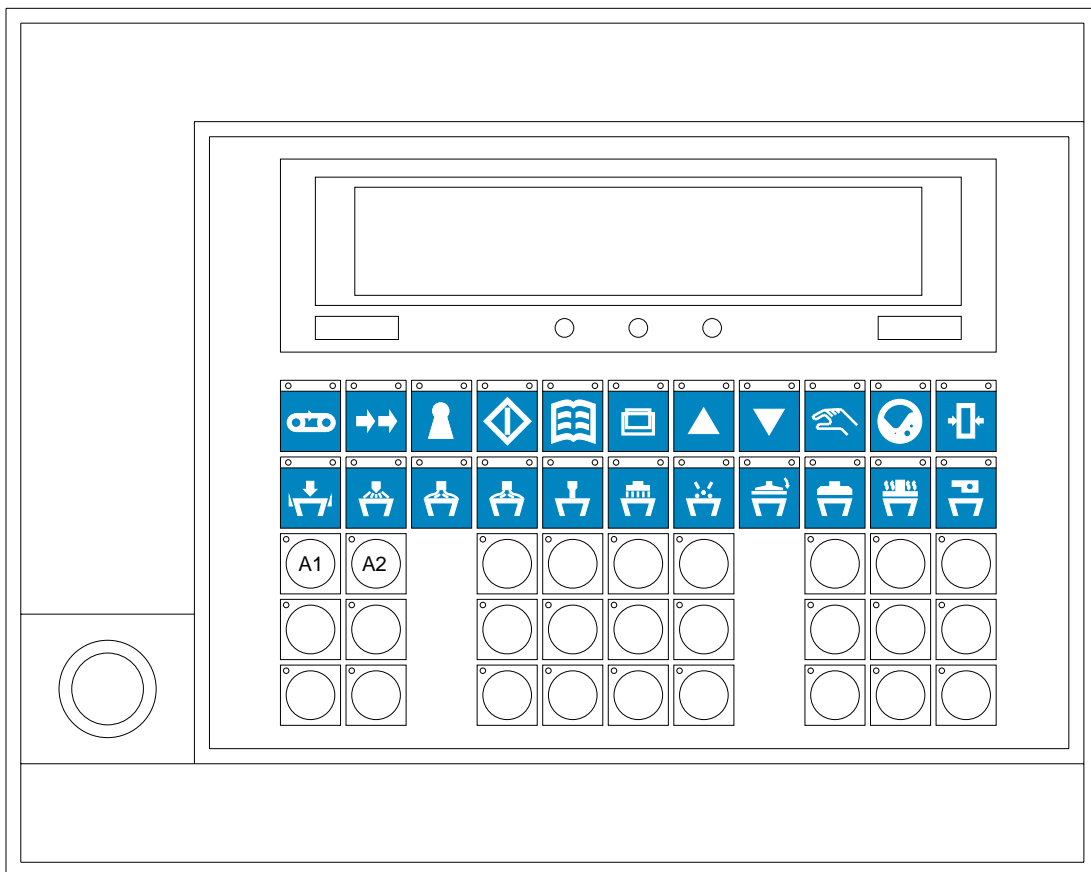
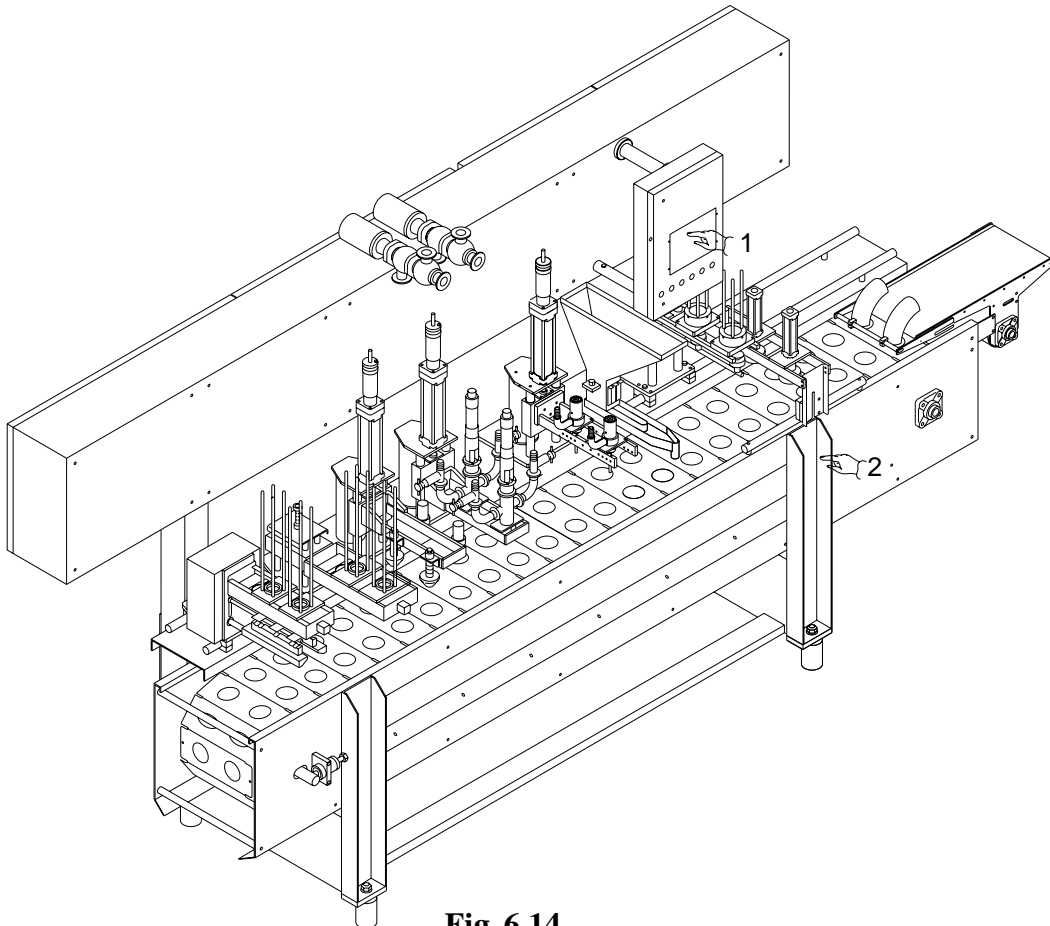
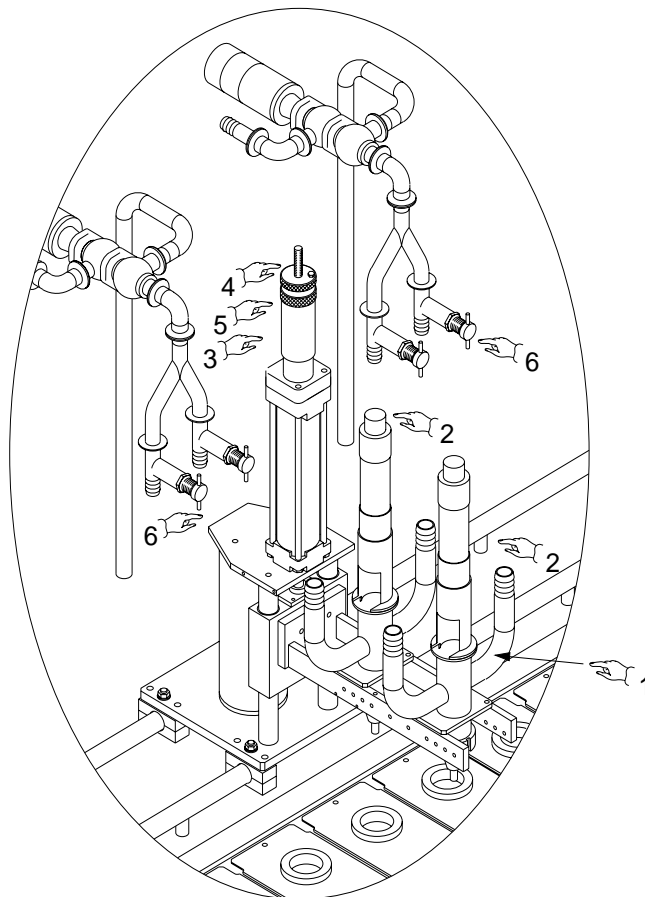
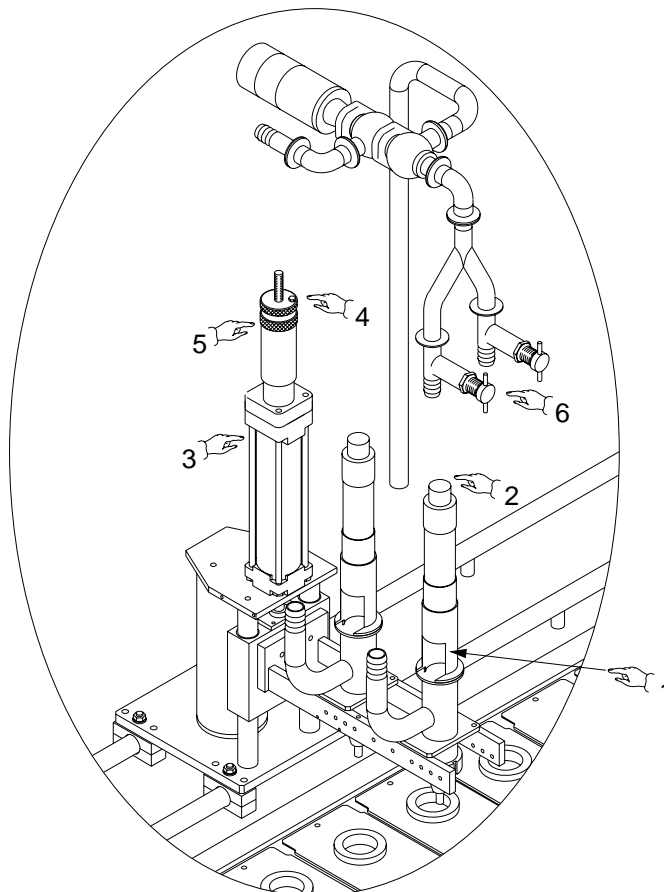

Fig. 6.13
Fig. 6.14
Fig. 6.16
Fig. 6.17
The water in the jacket must be heated at least half an hour before use. The water is heated by pressing button *A1* (*Fig. 6.13*).
(*Fig. 6.13*) which automatically close the bypass.
is activated using the “pencil filler”  buttons (*Fig. 6.13*) which automatically close the by-pass.
During production, the tanks must be filled manually. To start heating the chocolate, press the “chocolate tank heater” button A1 (*Fig. 6.13*).
To keep chocolate circulating from the tank to the sprayer and back again while the machine is stopped, press the “chocolate sprayer” button  (*Fig. 6.13*).
The water in the chocolate tank jacket must be heated at least half an hour before use. The water heater is switched on by pressing button (A1 *Fig. 6.13*).
The station is activated by pressing the button  (Fig. 6.13).
The station is activated by pressing the button  (*Fig. 6.13*). The vacuum control and the rotation of the cylinder are adjusted by means of the associated cams.
The process is activated by pressing button F20  (*Fig. 6.13*) and adjusted by means of cams through the operator interface, with the appropriate inputs in the electronic programmer.
If any component malfunctions, press the emergency stop button (*Part. 1/2, Fig. 6.14*) to disable all the machine's electrical functions.
To reset the machine, first remedy the cause of the malfunction, rotate the emergency stop button (*Part.1, Fig. 6.14*) anticlockwise and release it,
then press the reset button  (*Fig. 6.13*) on the operator interface panel or press the button on the cord emergency stop switch (*Part. 2, Fig. 6.14*) and then press the reset button  (*Fig. 6.13*).
- Press the end of production button (*Pos.*  *Fig. 6.13*). All the operating stations in memory will stop automatically.
The cups are filled with ice cream by dosers (*Pos. 1, Fig. 6.16*) controlled by means of pneumatic actuators (*Pos. 2, Fig. 6.16*).
A fixed structure supports a pneumatic actuator (*Pos. 3, Fig. 6.16*) which controls the upward and downward movement of the mobile frame. The travel of the pneumatic actuator can be adjusted by slackening screws (*Part. 4, Fig. 6.16*) and turning ring nut (*Part. 5, Fig. 6.13*) clockwise to increase the travel of the pneumatic actuator or anticlockwise to reduce it.
At the end of the adjustment, tighten screws (*Part. 4, Fig. 6.16*).
Two dosers (*Pos. 1, Fig. 6.16*) mounted on the frame feed the required quantity of ice cream into the cup.
The quantity of ice cream output by each doser can be balanced between the lines by adjusting the flow controllers (*Pos. 6, Fig. 6.16*).
The cups are decorated with ice cream by dosers (Pos. 1, Fig. 6.17) controlled by means of pneumatic actuators (Pos. 2, Fig. 6.17).
A fixed structure supports a pneumatic actuator (Pos. 3, Fig. 6.17) which controls the upward and downward movement of the mobile frame. The travel of the pneumatic actuator can be adjusted by slackening screws (Part. 4, Fig. 6.17) and turning ring nut (Part. 5, Fig. 6.13) clockwise to increase the travel of the pneumatic actuator or anticlockwise to reduce it.
At the end of the adjustment, tighten screws (Part. 4, Fig. 6.17).
Two dosers (Pos. 1, Fig. 6.17) mounted on the frame feed the required quantity of ice cream into the cup.
The quantity of ice cream output by each doser can be balanced between the lines by adjusting the flow controllers (Pos. 6, Fig. 6.17).